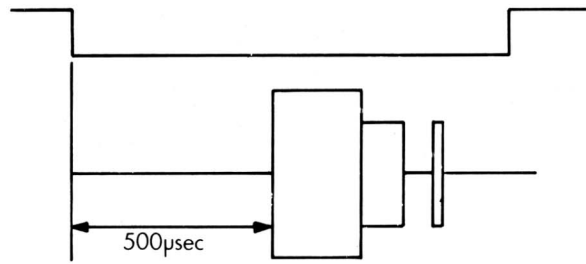

Fig. 5-1 Index burst waveform
- vi) Adjust VR201 so Index frequency is $200 \pm 2\text{ms}$ (See Fig. 5-1).
- 5) Measure timing between sweep start and an initial data pulse. It should be 500 usec \pm 500 usec. When the timing is not within this range, proceed with the following adjustment. (Refer to Fig. 5-1).